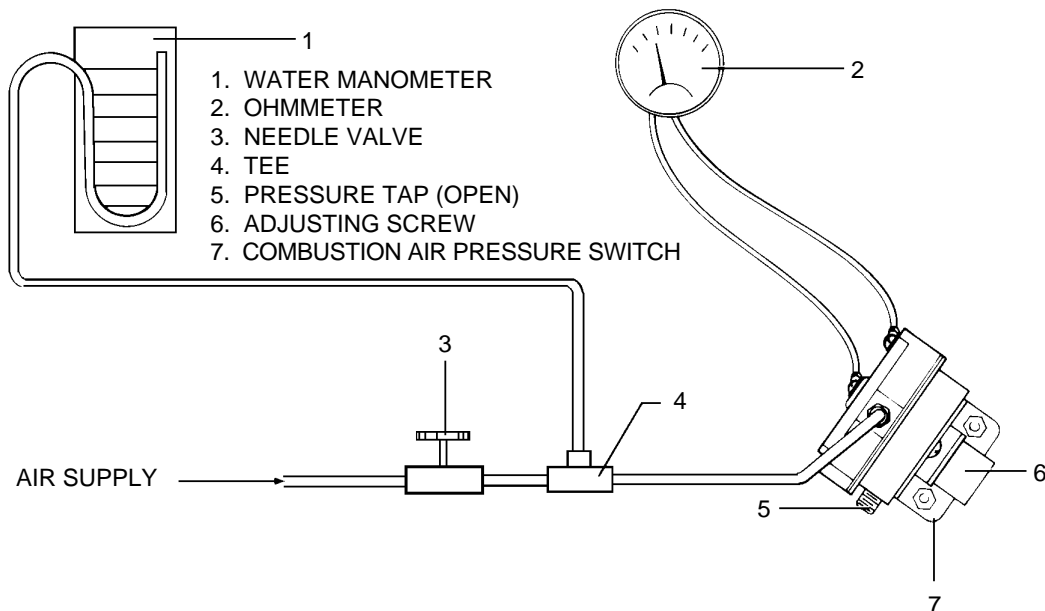

Figure 21-15. Test Setup for Combustion Air Pressure Switch
4. The combustion air pressure switch must respond to delicate pressure changes and should always be checked and or replaced at overhaul. (Refer to Figure 21-15.)
- a. Connect an adjustable air pressure line that can be controlled in a range of zero to 5.0 psi maximum) of gater to the switch opening with a water manometer and needle valve in the line ahead of switch. Switch must be tested in 45 degree position as shown in Figure 21-15.